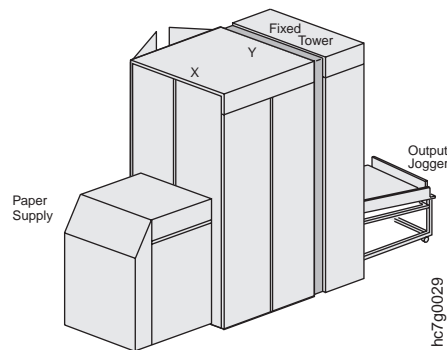

Figure 274. Right Side View of the InfoPrint Color 100
2. Open the Y tower door on the left side of the machine, as shown in Figure 274.